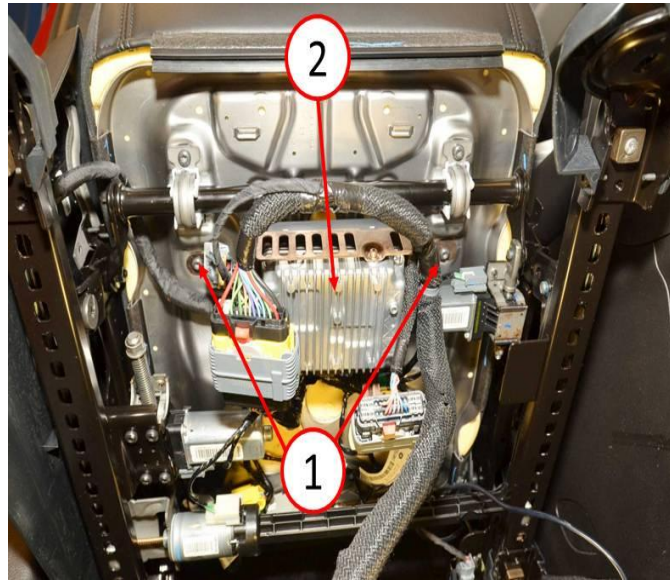

Fig. 2 Memory Seat Module
4. Remove the two fasteners securing the memory seat module carrier underneath the right front seat (Fig. 2).